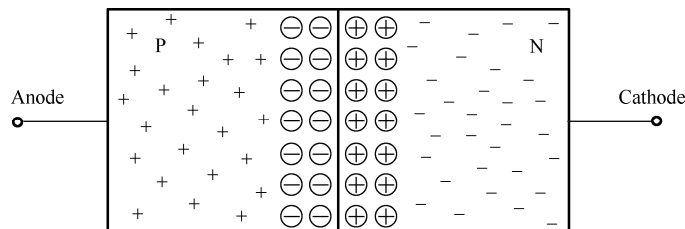

Figure 3.5 The PN junction
**Assuming the crystal is not at absolute zero, the thermal energy in the system will cause some of the free electrons in the N material to “fall” into the excess holes of the adjoining P material.** This will create a region that is devoid of charge carriers (remember, electrons are the majority charge carriers in the N material while holes are the majority charge carriers in the P material). In other words, the area where the N and P materials abut is depleted of available electrons and holes, and thus we refer to it as a depletion region. This is depicted in Figure 3.5.